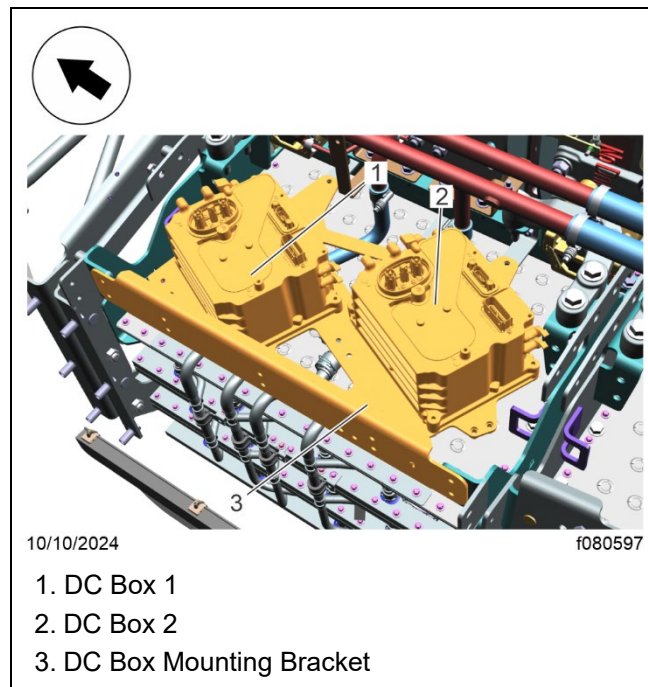

Fig. 18, DC Box Mounting Bracket
15. Remove the DC box mounting bracket fasteners. See Fig. 18.
21. Install the DC box(es) and bracket on the vehicle. See Fig. 18.